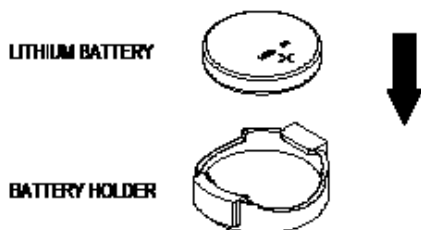

Figure 5-8. Installing the Onboard Battery
5. Install all six rails onto the mobile rack. Each rail requires two screws. Make sure the arrow on the rail points toward the front of the chassis (Figure 5-8).